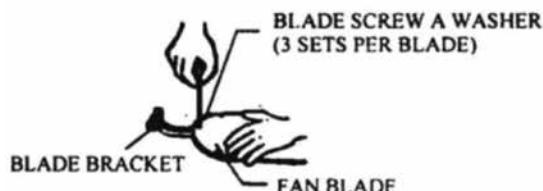

FIG.6
1. Mount the brackets to the fan blades using the blade screws and washers provided. See Fig. 6. Make sure all blade screw are tightened securely.